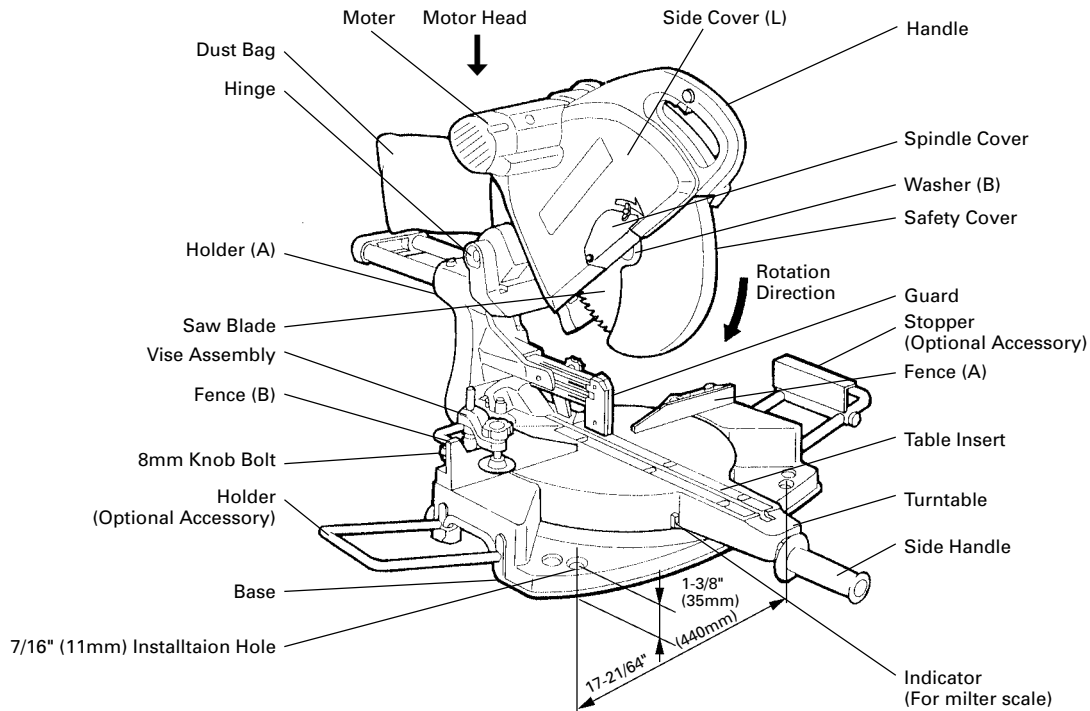

Fig. 1
When the power tool is prepared for shipping, its main parts are secured by a locking pin. Move the handle (see Fig. 1) slightly so that the locking pin can be disengaged.
**NOTE:** Lowering the handle (see Fig. 1) slightly will enable you to disengage the locking pin more easily and safely. The lock position of the locking pin is for carrying and storage only.
Attach the dust bag, holder, stopper and vise assembly as indicated in Fig. 1.